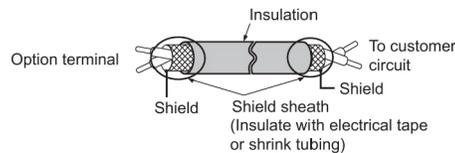

Figure 7: Preparing Ends of Shielded Cable
2. There are two screw holes on the drive for use as ground terminals (I).
4. Prepare and connect the wire ends as shown in Figure 7 and Figure 8. Refer to Wire Gauges, Tightening Torques, and Crimp Terminals on page 18 to confirm that the proper tightening torque is applied to each terminal. Take particular precaution to ensure that each wire is properly connected and wire insulation is not accidentally pinched into electrical terminals.